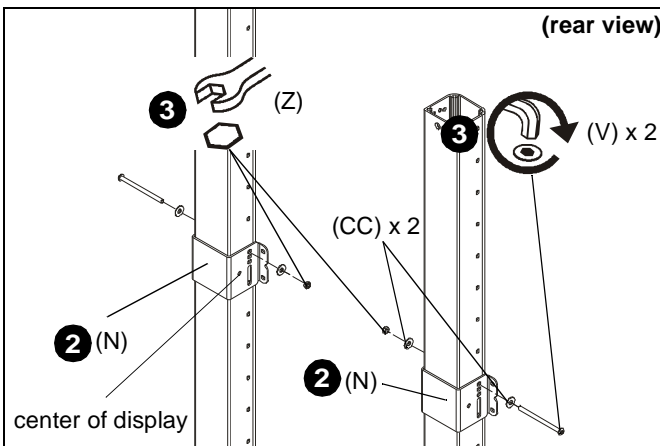

Figure 5
2. Place clamp brackets (N) on columns in the position of where the center of the display will be on the cart with the diamond on the brackets being placed at the exact center location. (See Figure 5)
3. Use 5/16-18 x 4 1/2" button head cap screw (V), two 5/16" washers (X) and 5/16-18" lock nut (Z) to secure each clamp bracket (N) to column. (See Figure 5)